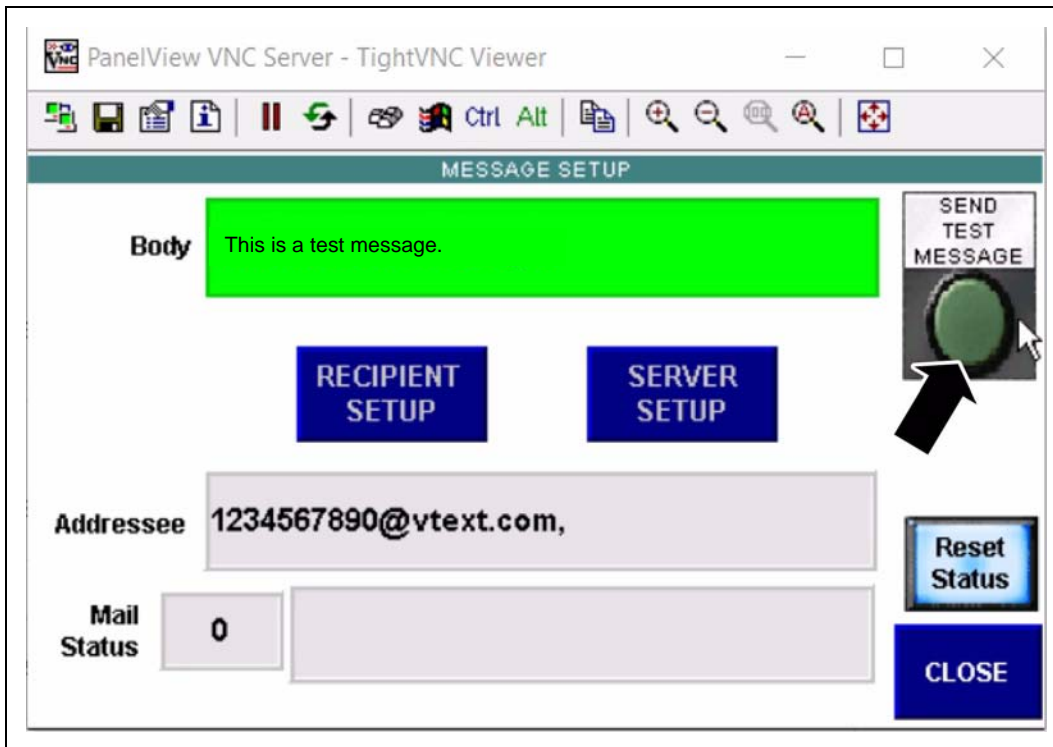

Figure 5E
5. It should now look like this. Press the “Send Test Message” button and hold it for 1-2 seconds and the message should send. (See Figure 5E.)